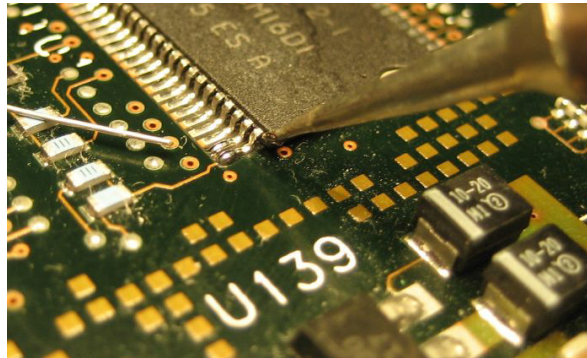

Figure 65 Solder Added to Target Points
- 1 Add some solder to the target points in the DUT. **Figure 65** on page 90 shows extra solder added to the pads for the first two pins on an IC package.